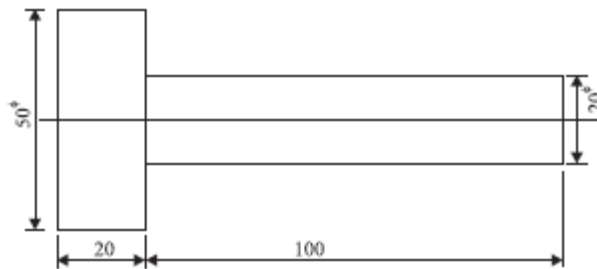

Fig. 5.8
- 8 150 components, as shown in Fig. 5.8 are to be made by upsetting a f 20 mm bar. Estimate the net weight, gross weight and length of f 20 mm bar required. The density of material may be taken as 7.86 gms/cc. BT2